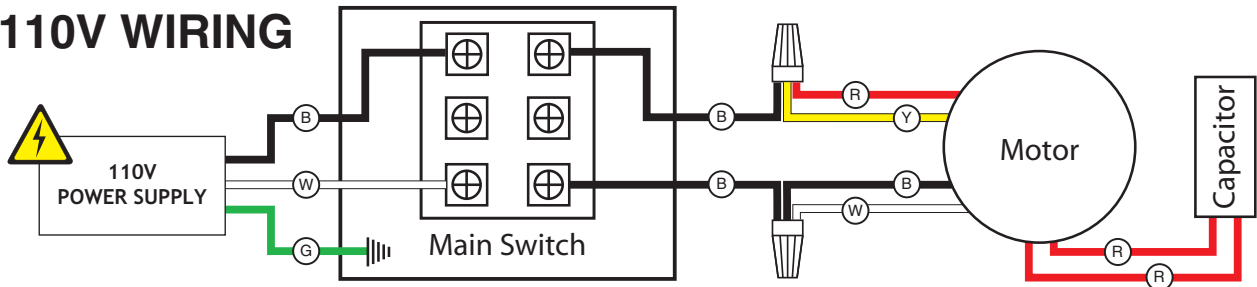

Figure 27. Removing clips from gas spring.
3. Pry the clips off the end of the gas spring, as shown in Figure 27.